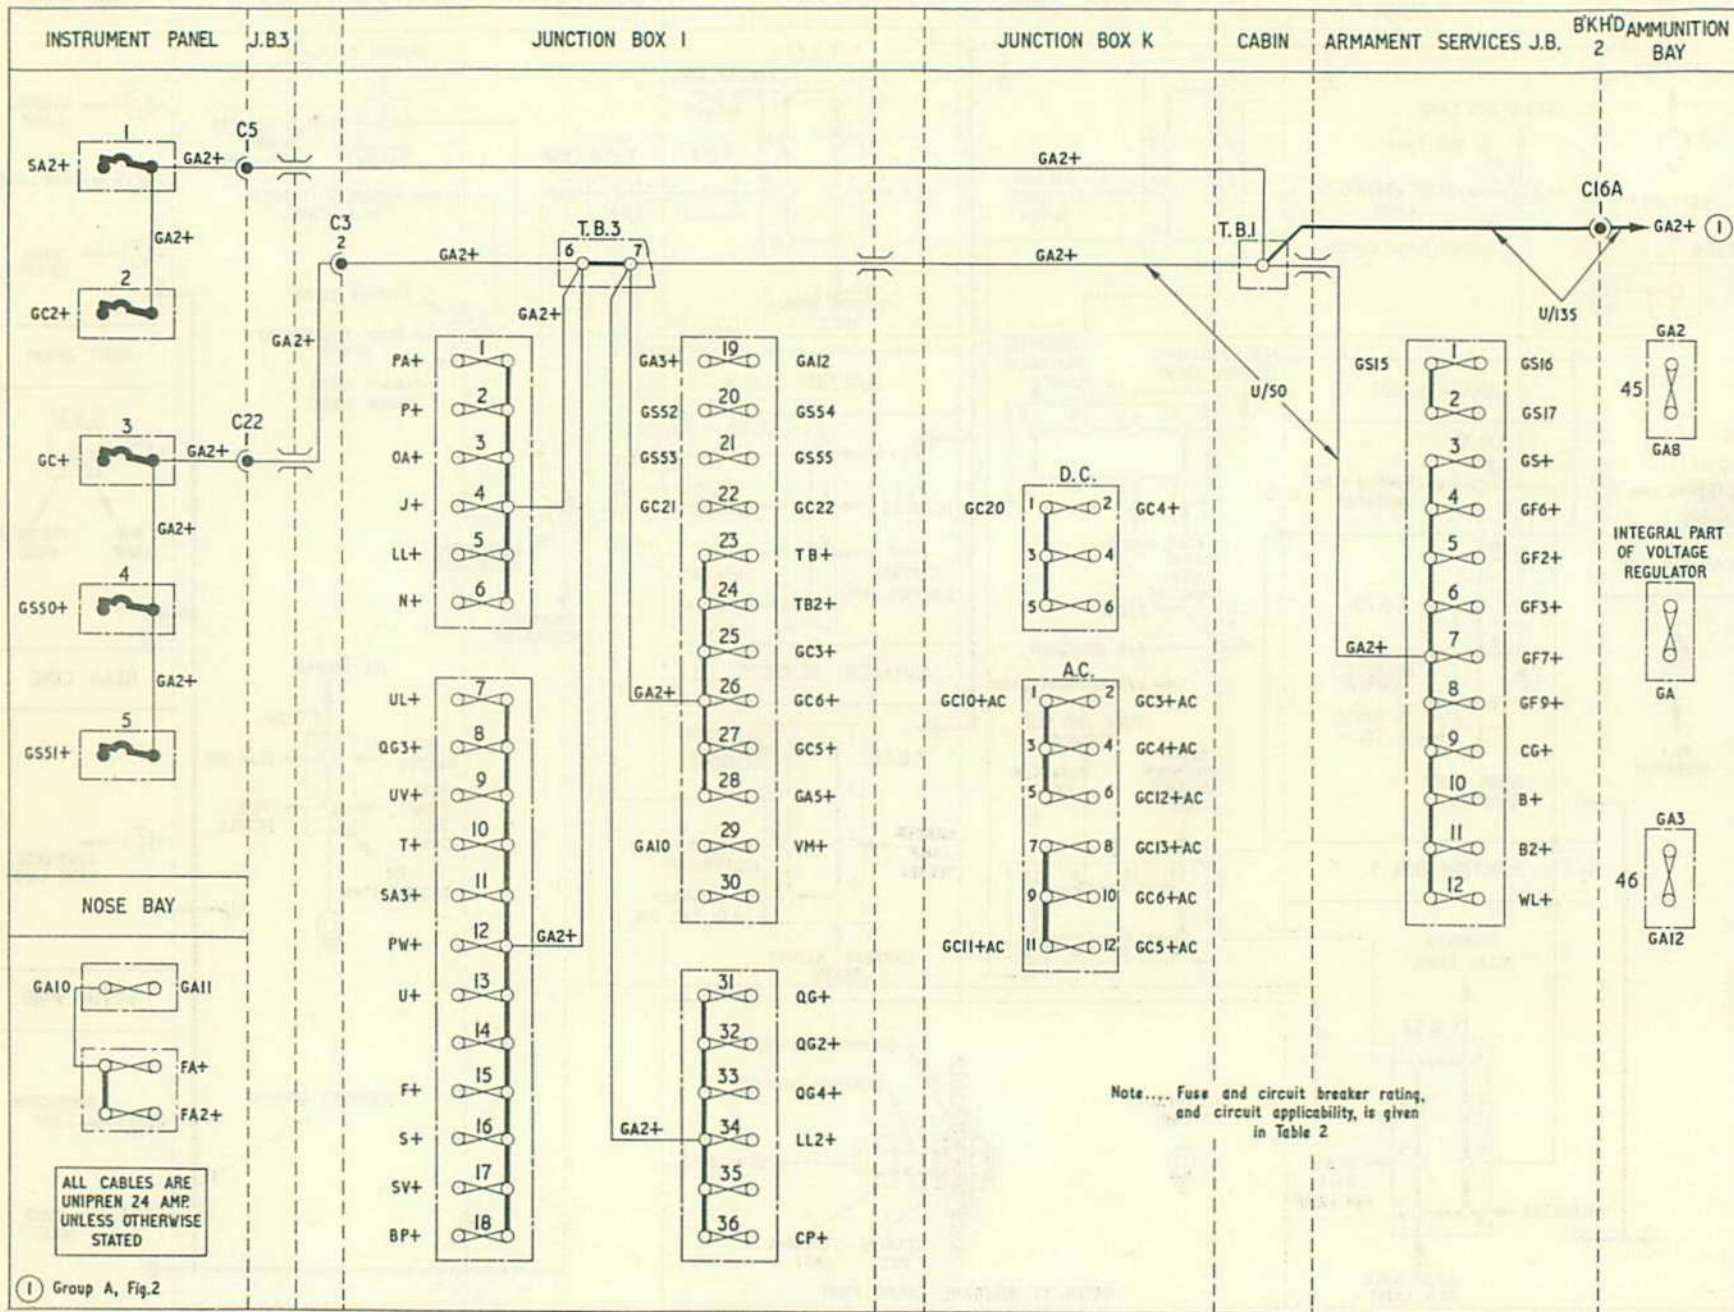

Fig. 5. Power distribution
18. The generator line main fuse is fitted in the regulator and cut-out unit whilst the batteries line main fuse is mounted in the nose bay, both these fuses being of 120 amp. rating. Five circuit breakers are fitted to the main instrument panel, and serve the starter motor, a.c. inverters and port and starboard gyro gun sight retraction unit circuits. Table 2 lists these fuses and circuit breakers, giving their respective circuit, rating and location data. Fig. 5 also shows these locations, in routing chart form.